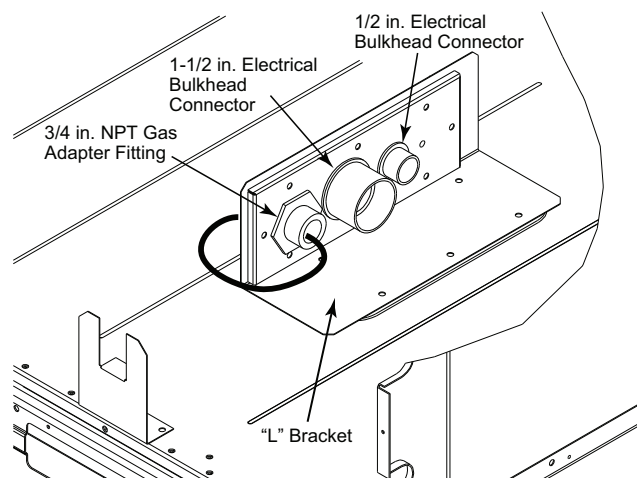

Fig. 15 — Thru-Base Connection Fittings
This service connection kit consists of a 3/4-in. NPT gas adapter fitting (stainless steel), a 1/2-in. electrical bulkhead connector and a 1-1/2-in. electrical bulkhead connector, connected to an “L” bracket covering the embossed (raised) section of the unit basepan in the condenser section. See Fig. 15.
1. Remove the “L” bracket assembly from the unit (see Fig. 15).